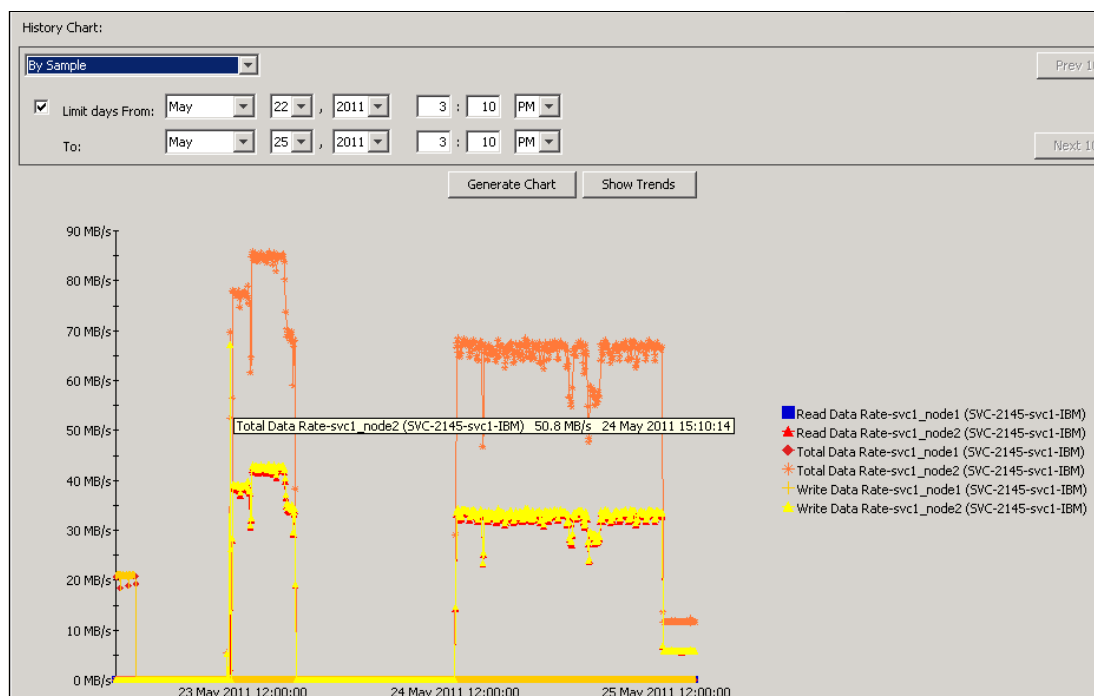

Figure 13-28 Data Rate graph for SAN Volume Controller
2. Select the **Read Data Rate** metric. Press Shift and select **Write Data Rate** and **Total Data Rate**. Then, click **OK** to generate the chart, as shown in Figure 13-28.